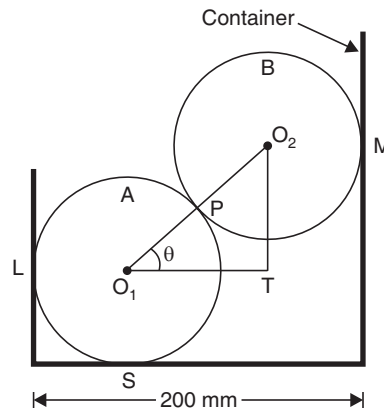

Fig. 2.53
**Example 2.32.** Two spheres  $A$  and  $B$  weighing  $100 \text{ N}$  and  $75 \text{ N}$  respectively and with the corresponding radii  $75 \text{ mm}$  and  $50 \text{ mm}$  are placed in a container as shown in Fig. 2.53. Determine the support reactions.
**Sol.** Join the centres  $O_1$  and  $O_2$  of the two spheres and drop a vertical line from point  $O_2$  and a horizontal line from point  $O_1$  to form a  $\Delta O_1 O_2 T$  as shown in Fig. 2.53